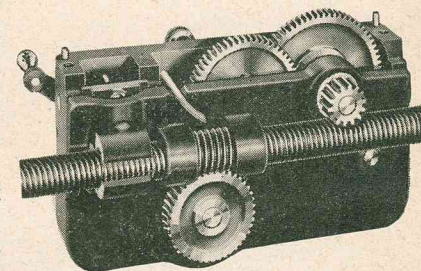

FIG. 3
In screw-cutting, which we shall call thread-cutting for clarity, the carriage, which carries the thread-cutting tool, moves by engagement with the rotating lead screw. (Fig. 3) The elementary principle in thread-cutting is that the revolving lead screw pulls the carriage along in the desired direction at a desired speed. The carriage transports the tool rest and the threading tool which cuts the screw-thread into the metal piece being machined.
4. **Lead Screw.** The lead screw (Fig. 3) runs the length of the bed. Its external thread is cut with great precision (all Sheldon lead screws are milled on a Pratt and Whitney Special Precision Lead Screw Machine). The lead screw moves the carriage for thread-cutting. It also has a keyway cut its full length with which a spline revolves the worm that moves the lathe carriage when the power feed is engaged (for all purposes but thread-cutting).